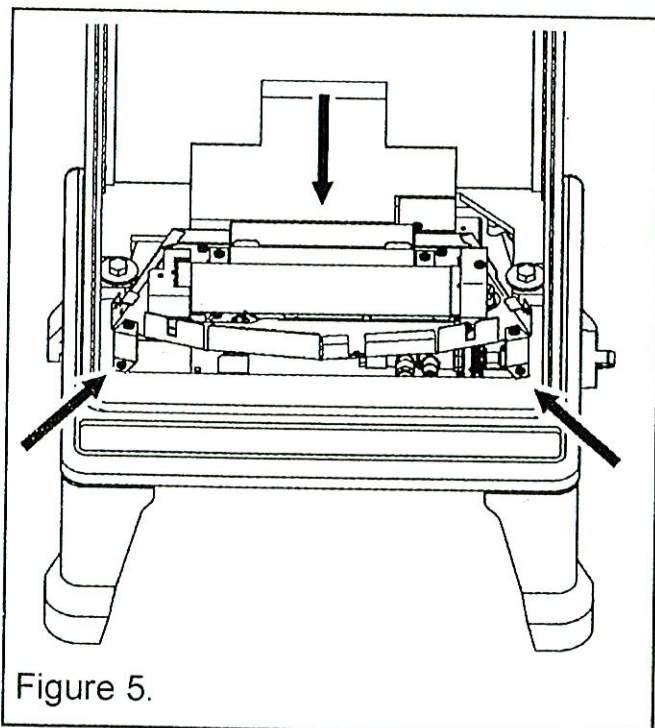

Figure 5.
- 9.** Locate the burner assembly inside the stove body as in figure 5 (The outer front of the stove is not shown for clarity). The rear leg of the burner should sit on the rear of the casting. Secure using the three screws supplied. The screw locations are shown in figure 5).